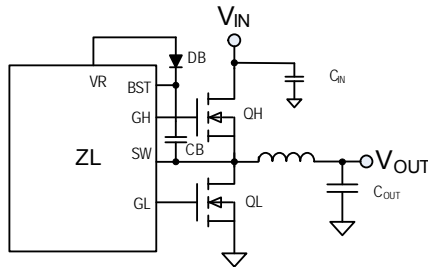

FIGURE 5. Synchronous Buck Converter
Figure 5 illustrates the basic synchronous buck converter topology showing the primary power train components. This converter is also called a step-down converter, as the output voltage must always be lower than the input voltage. In its most simple configuration, the ZL2008 requires two external N-channel power MOSFETs, one for the top control MOSFET (QH) and one for the bottom synchronous MOSFET (QL). The amount of time that QH is on as a fraction of the total switching period is known as the duty cycle D , which is described by Equation 1:
Typically, buck converters specify a maximum duty cycle that effectively limits the maximum output voltage that can be realized for a given input voltage. This duty cycle limit ensures that the lowside MOSFET is allowed to turn on for a minimum amount of time during each switching cycle, which enables the bootstrap capacitor (CB in Figure 5) to be charged up and provide adequate gate drive voltage for the high-side MOSFET. See section “High-side Driver Boost Circuit” on page 12 for more details.
The gate drive voltage for the high-side MOSFET driver is generated by a floating bootstrap capacitor, CB (see Figure 5). When the lower MOSFET (QL) is turned on, the SW node is pulled to ground and the capacitor is charged from the internal VR bias regulator through diode DB. When QL turns off and the upper MOSFET (QH) turns on, the SW node is pulled up to VDD and the voltage on the bootstrap capacitor is boosted approximately 5V above VDD to provide the necessary voltage to power the high-side driver. A Schottky diode should be used for DB to help maximize the high-side drive supply voltage.